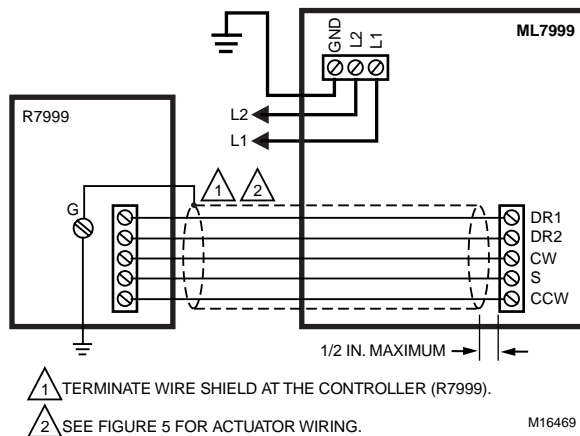

Fig. 6. Typical ML7999 wiring.
3. Wire the low-voltage circuit to the R7999. See Fig. 6 for typical wiring connections.
5. Wire the line-voltage circuit. See Fig. 6 for typical wiring connections.